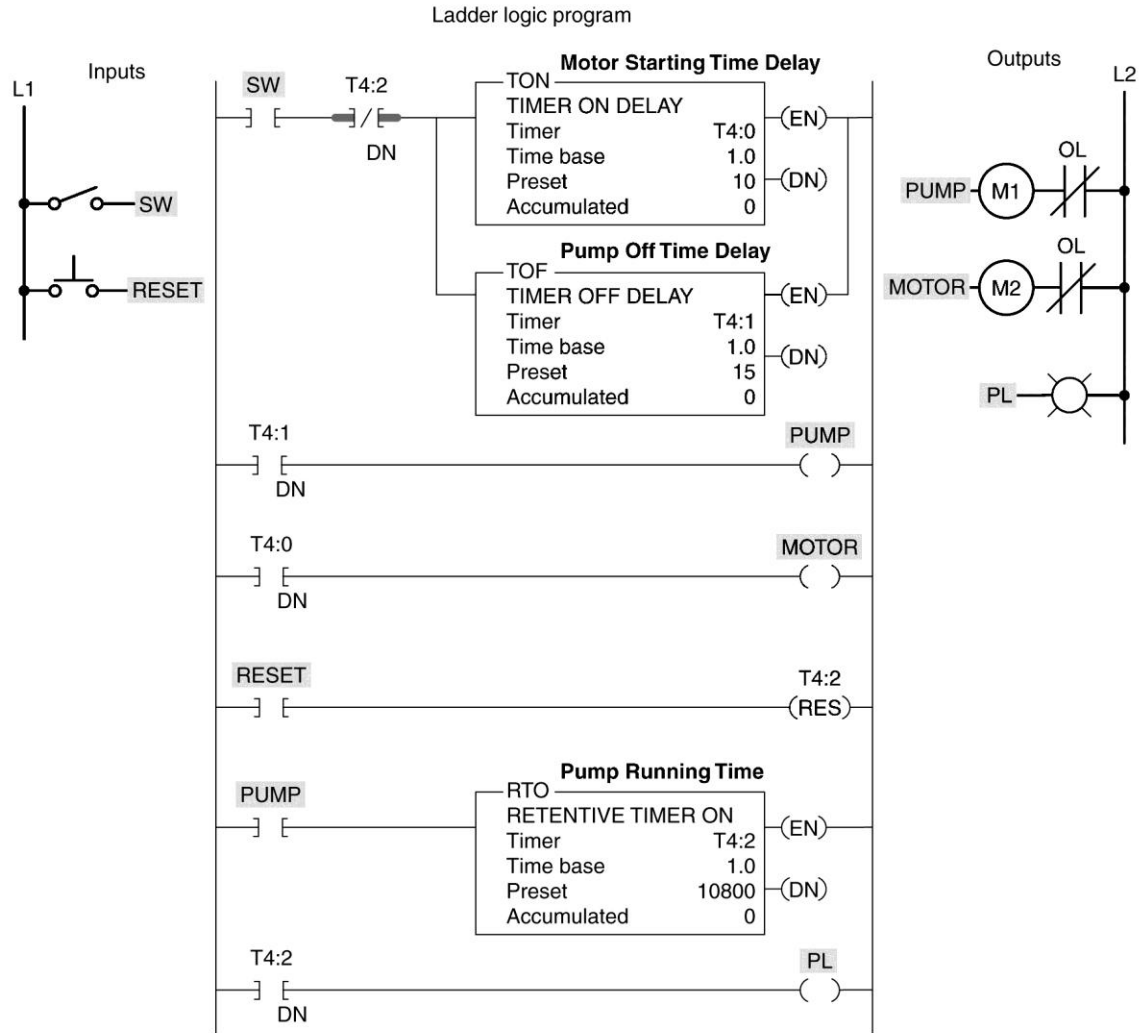

Figure 7-28 Bearing lubrication program for assignment 12.
12) The program of Figure 7-28 is described in the text and uses TON, TOF, and RTO timers as part of a bearing lubrication program. Prepare an I/O connection diagram and ladder logic program for the process. Use addresses that apply to your PLC. Enter the program into the PLC, and prove its operation.